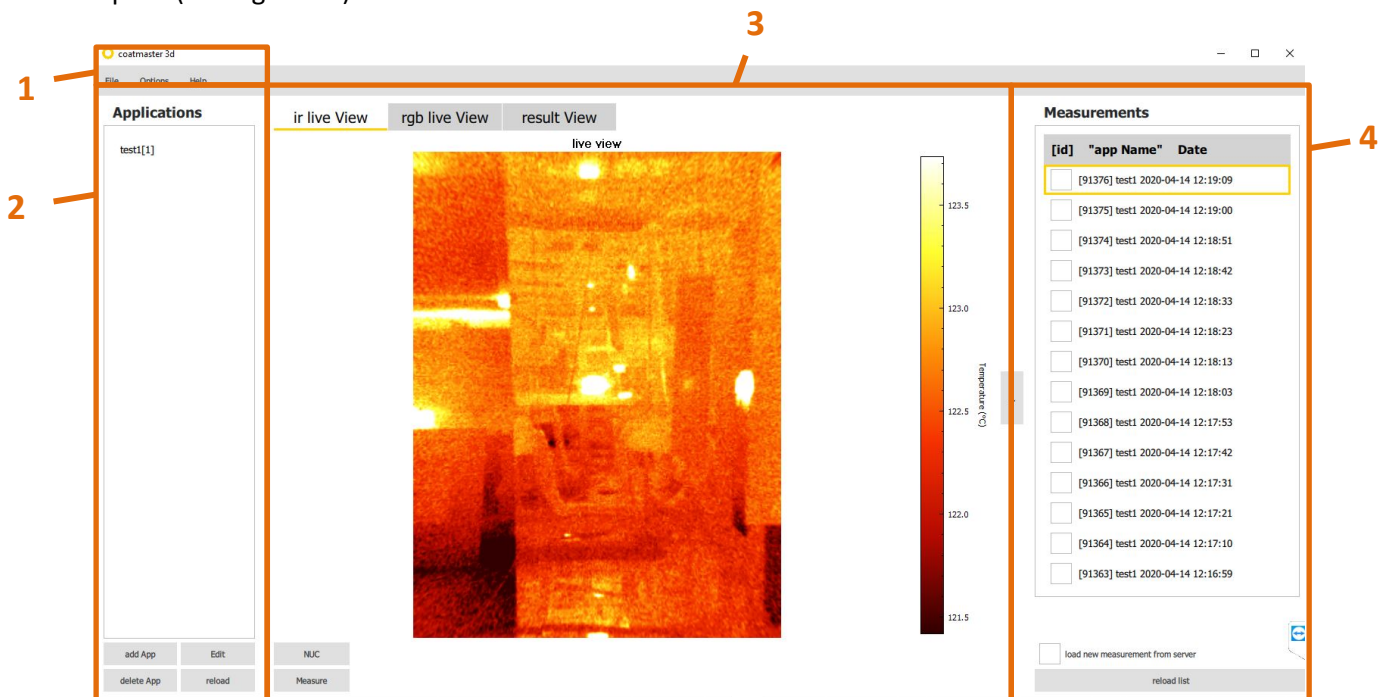

Figure 22 The main window of the coatmaster 3D Operating System is divided into four areas: 1. Menu, 2. Applications, 3. Measure and 4. Previous measurements
1. On the coatmaster 3D User Interface, select the *Ir live View* tab (see Figure 22)